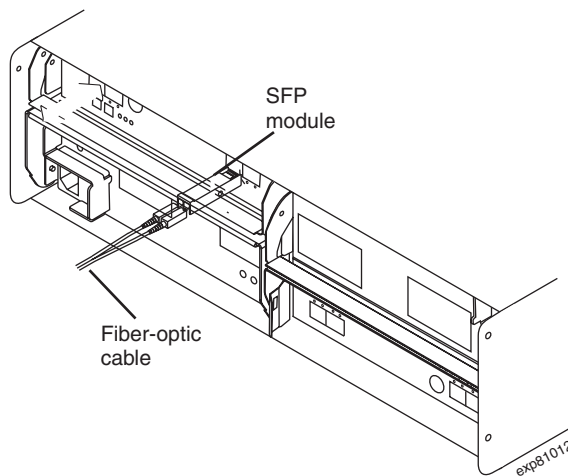

Figure 82. Installing an SFP module and connecting an LC-LC cable to the storage expansion enclosures
2. Connect an LC-LC fiber-optic cable into the SFP module, as shown in Figure 82 on page 130.
Install an SFP module in the SFP port on the back of the storage expansion enclosures; then, connect the other end of the LC-LC cable into the SFP module, as shown in Figure 82.